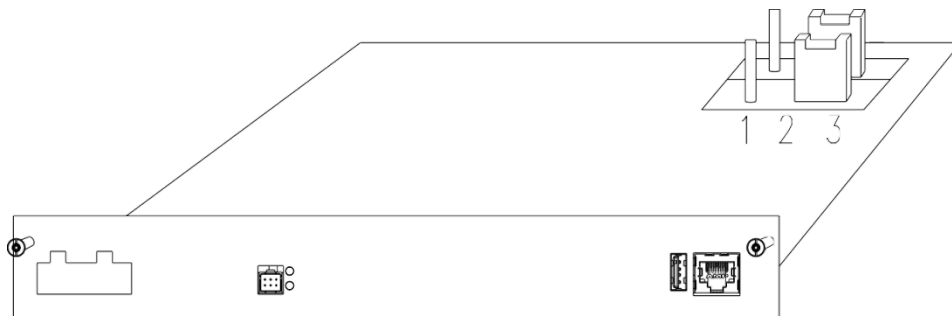

Figure 5.27 Resistance Setting Diagram
- Remove the CAN3 resistors from four Dispensers A, B, C, D. As shown in Figure 5.27. Move the jumper to pins 2 and 3.